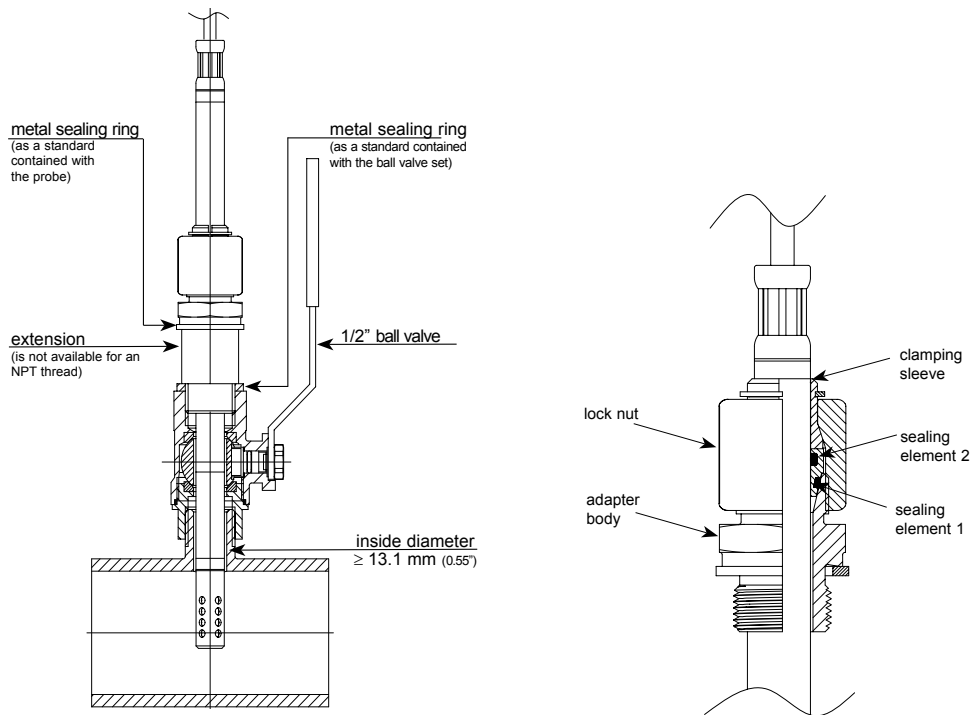

Fig. 10 Installation of the probe by utilizing the ball valve set
The two metal sealing rings (see Fig. 10 Installation of the probe by utilizing the ball valve set) shall be replaced every time prior to re-installing the probe.
**Installation of the probe** (see Fig. 10 Installation of the probe by utilizing the ball valve set):